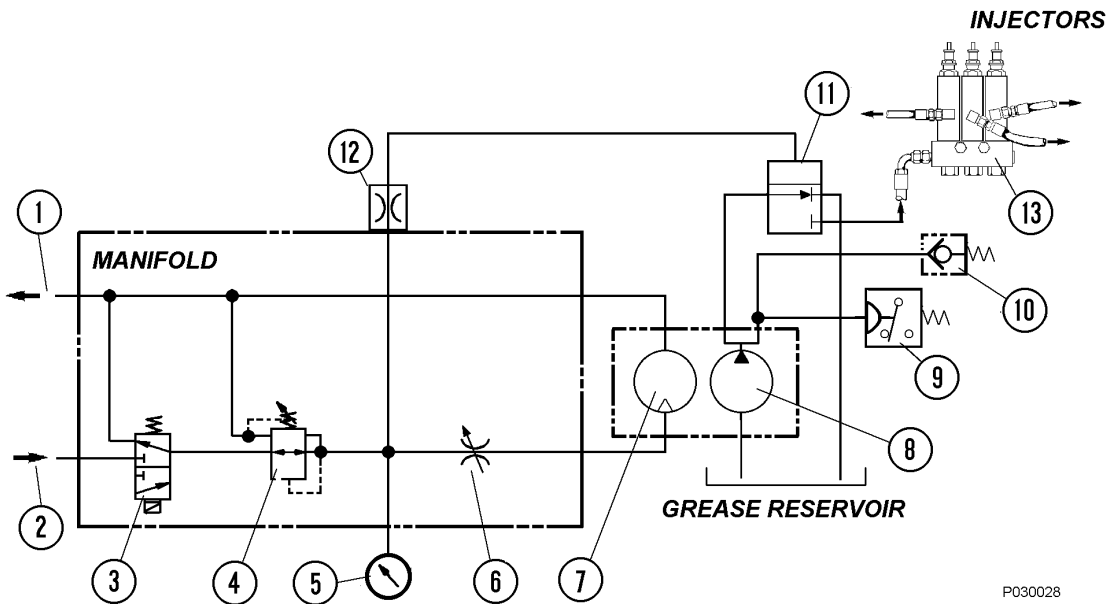
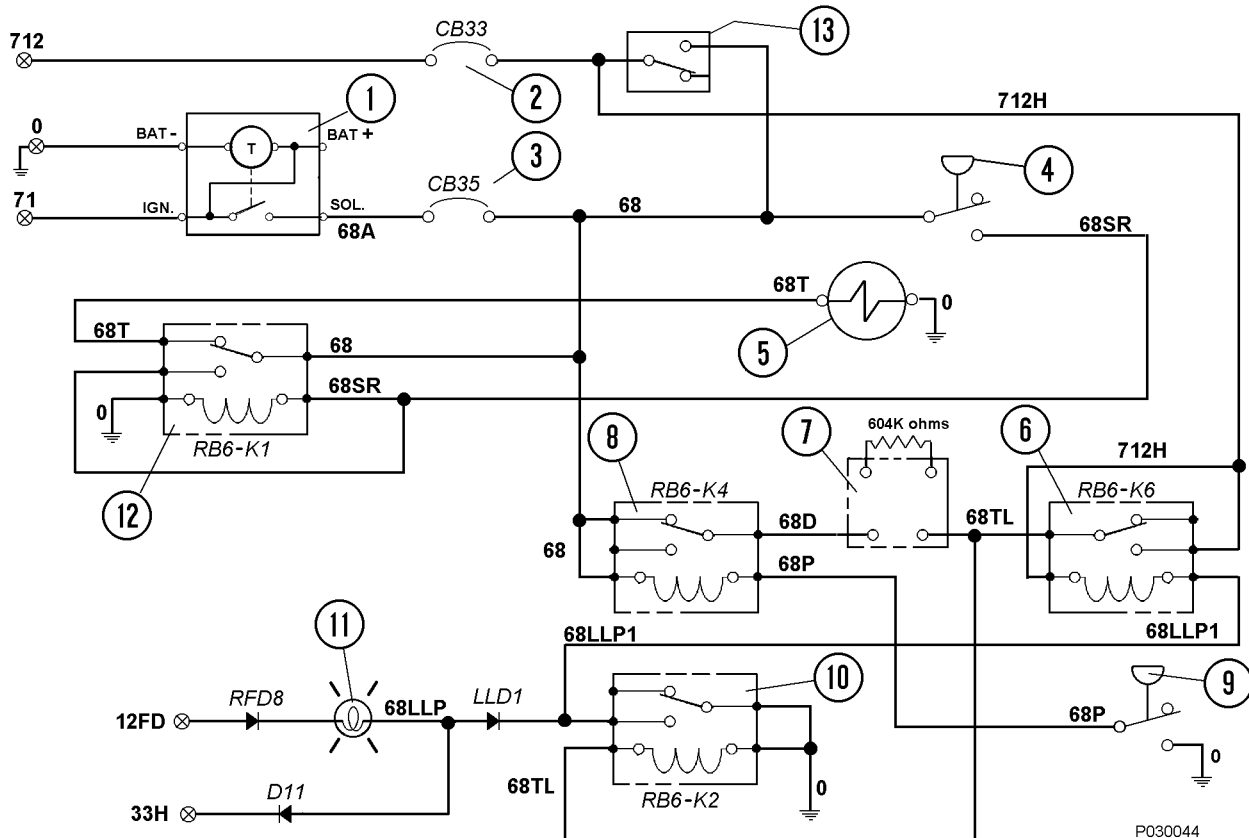

FIGURE 42-5. HYDRAULIC SCHEMATIC
FIGURE 42-6. ELECTRICAL SCHEMATIC
Time delay module (7, Figure 42-6), located in the electrical interface cabinet, provides a one minute delay in the low pressure warning light circuit to allow a normally operating system to attain full grease system pressure without activating the warning light. If the system fails to reach 13 790 kPa (2,000 psi) within this period of time, the timer will apply 24VDC to several relays, which will illuminate the low pressure warning light in the overhead panel. An external 604K ohm resistor determines the delay period.
Refer to Figure 42-5 and 42-6:
1. During truck operation, lubrication cycle timer (1, Figure 42-6) will energize the system at a preset time interval.
2. The lubrication cycle timer provides a 24VDC signal through normally closed relay board (12) used to energize pump solenoid valve (3, Figure 42-5), allowing hydraulic oil provided by the truck steering pump circuit to flow to the pump motor and initiate a pumping cycle.
3. The hydraulic oil pressure from the steering circuit is reduced to 2 240 to 2 413 kPa (325 to 350 psi) by pressure reducing valve (4, Figure 42-5) before entering the motor. In addition, the amount of oil supplied to the pump is limited by flow control valve (6). Pump pressure can be read using pressure gauge (5) mounted on the manifold.
4. With oil flowing into the hydraulic motor, the grease pump will operate, pumping grease from the reservoir to vent valve (11) and then to injectors (13). Pressure switch (9) prevents over pressurization.
6. When 20 685 kPa (3,000 psi) grease pressure reaches pressure switch (4, Figure 42-6) setting, the switch contacts will close and energize relay K1 (12), removing power from grease pump solenoid valve (5) and the pump will stop. The relay will remain energized until grease pressure drops and the pressure switch opens again or until the timer turns off.
7. After the pump solenoid valve is de-energized, hydraulic pressure in the manifold drops and vent valve (11, Figure 42-5) will open, releasing grease pressure in the lines to the injector banks. When this occurs, the injectors are then able to recharge for the next lubrication cycle.
8. Unloader valve (10) prevents excessive grease pressure if the pressure switch fails to close and shut off the hydraulic supply to the pump. The unloader will open at approximately 27 580 kPa (4,000 psi).
1. When the lubrication cycle is initiated, 24VDC flows through relay RB6-K4 (8, Figure 42-6) N.C. contacts to one minute time delay module (7).
2. If the system is operating normally, grease pressure at the rear axle injector bank will rise to pressure switch (9) setting of 13 790 kPa (2,000 psi), closing the switch contacts and energizing relay RB6-K4 (8), removing 24 Volts from the time delay module. The timer is then reset and no current will flow from the timer output terminal.
3. If a problem occurs and the system is not able to attain 13 790 kPa (2,000 psi), then time delay module (7) will energize relay RB6-K2 after 60 seconds, turning on the Low Lubrication System Pressure warning lamp on the overhead display. After RB6-K2 energizes, it will ground the coil of RB6-K6 and allow it to energize.